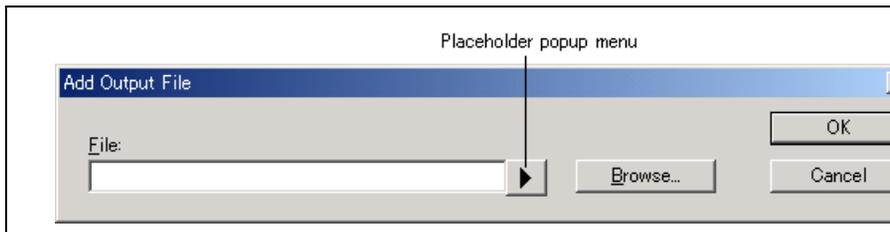

Figure 3.13: Add Output File Dialog
1. Click "Add...". The "Add Output File" dialog will be invoked (figure 3.13).